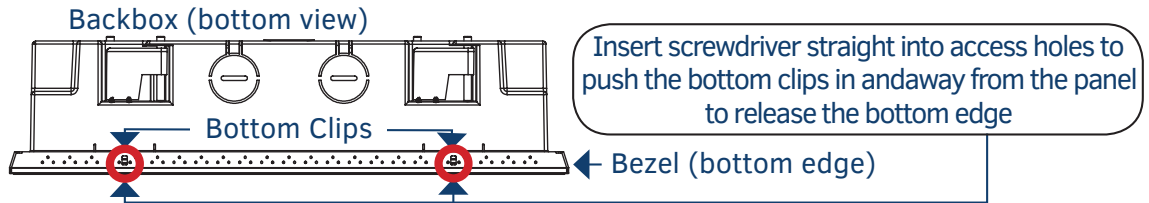

FIG. 29 MD-1002 Backbox Assembly
1. With a straightened paper-clip, carefully press straight into the access holes indicated in FIG. 29, to disconnect the two bottom latches.